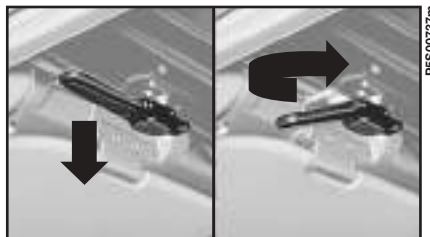

fig. 65
1) Working from inside the car, lower the sun visors and release the hard top from the windscreen transom by pulling down and turning the handles **fig. 65** towards the inside of the car.